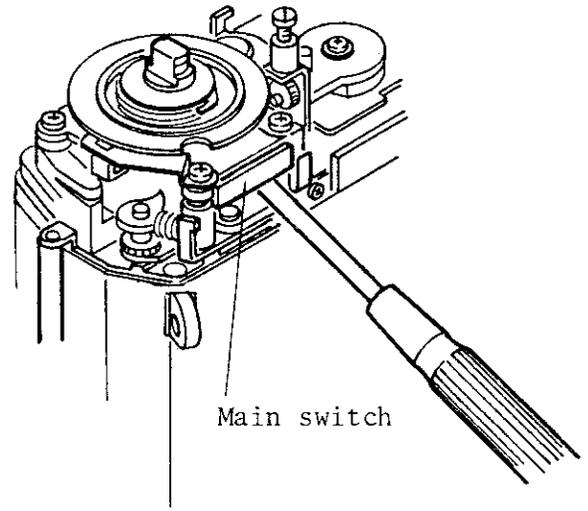

Fig.51
- a. Insert a NO. 4 or NO. 5 minus screw driver into under space of the switch as shown in Fig. 51 and remove the switch by levering up it carefully.